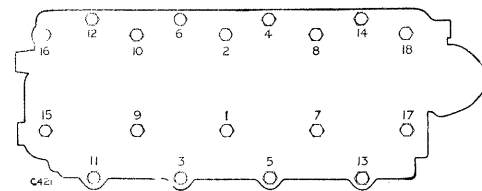

Fig. A-86—Order of tightening cylinder head bolts
5. Tighten down the cylinder head bolts in the order indicated by Fig. A-86. The  $\frac{1}{2}$  in. U.N.F. bolts, including those that also secure the rocker brackets, must be pulled down to 75 lb/ft (10,3 Kg/m) whilst the  $\frac{5}{16}$  in. U.N.F. bolts securing the rocker brackets only are pulled down to 12 lb/ft (1,66 Kg/m).